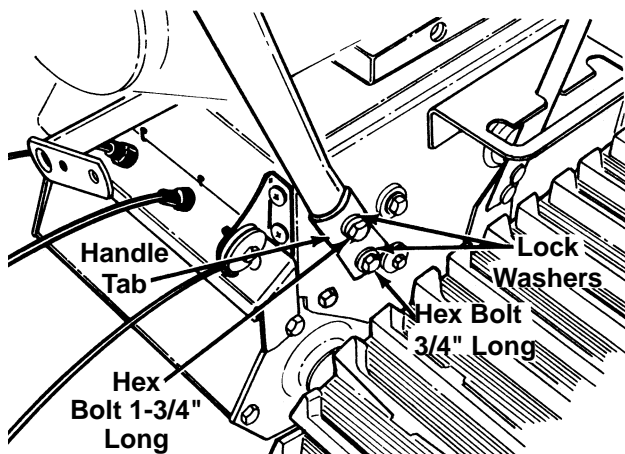

Figure 3
3. Place right handle in position with flat side against the snow thrower. Secure bottom hole in handle to snow thrower using hex bolt 3/4" long and lock washer. See figure 3. Do not tighten at this time.